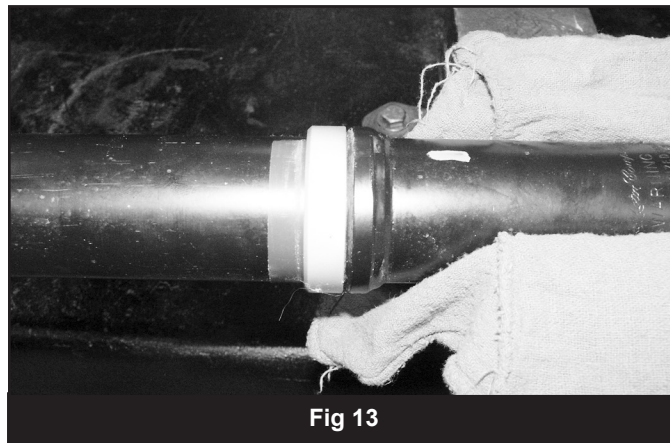

Fig 13
19. Clean any corrosion that may be present around the weld coil seat ring on the strut body. When the coil seat ring is clean, install the provided preload ring on the strut so that the tapered end is up (Fig 13).